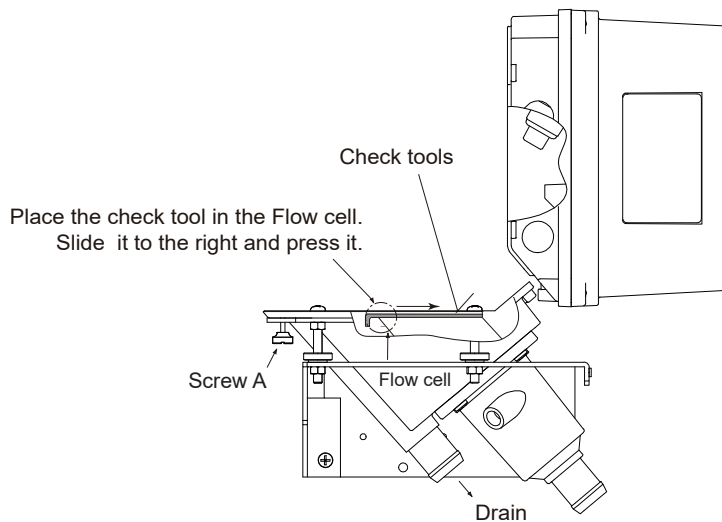

Figure 7.2 How to install a check tool
- Loosen the screw A at the bottom of the detector and open the top detector. (Figure 7.2)
- Set the check tool as shown in Figure 7.2.